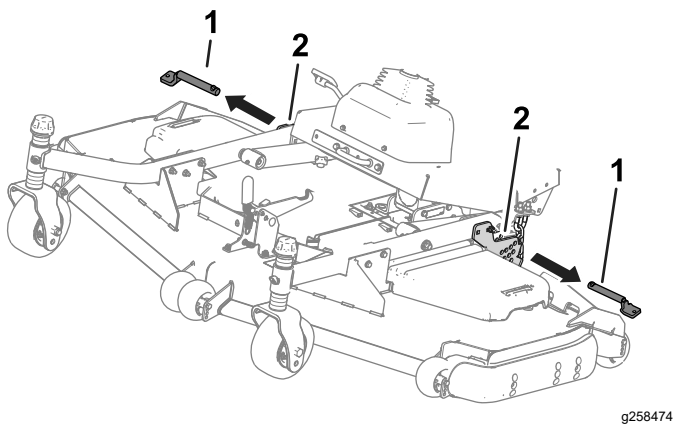

Figure 38
4. Remove the pins from the height-of-cut plates (Figure 38).